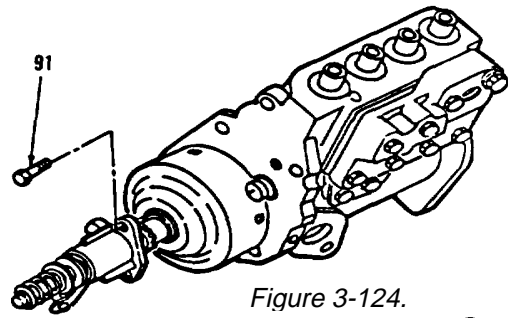

Figure 3-124.
1. Remove three bolts (91, Figure 3-124).